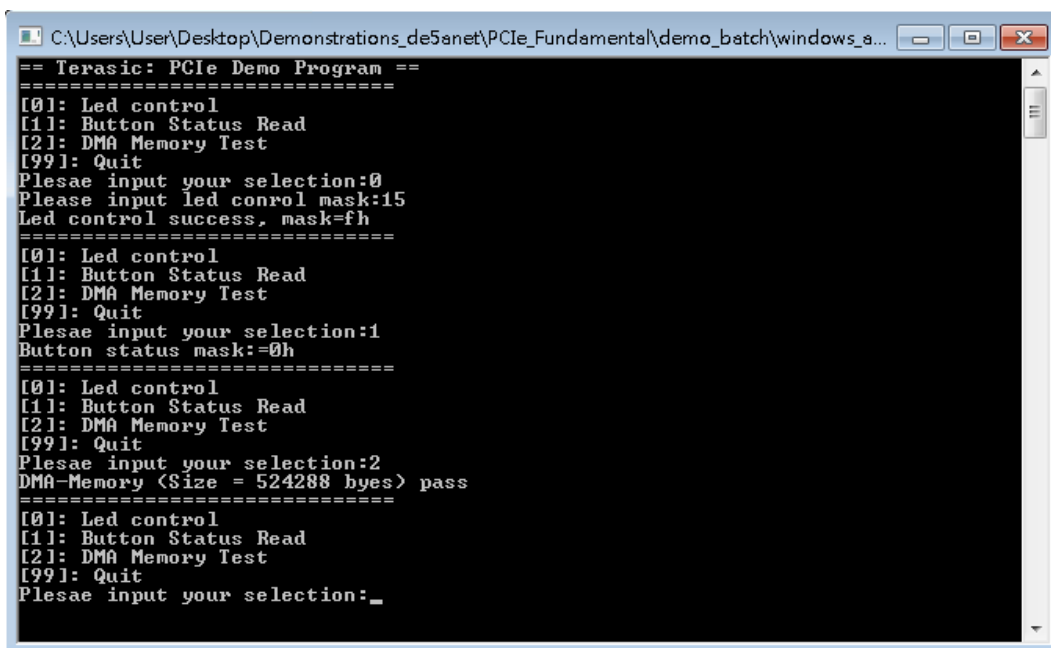

Figure 7-14 Screenshot of DMA Memory Test Result
9. Type 2 followed by an ENTER key to select DMA Testing item. The DMA test result will be report as shown in **Figure 7-14**.